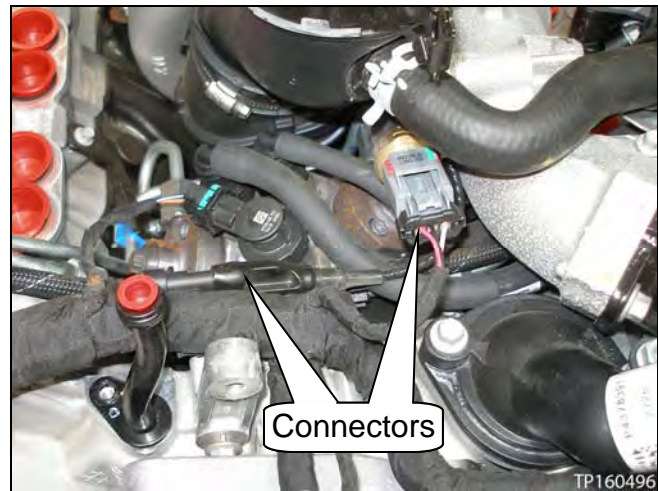

Figure 44
33. Disconnect the connectors for the low pressure turbocharger boost pressure sensor and high pressure turbocharger speed sensor (see Figure 44).